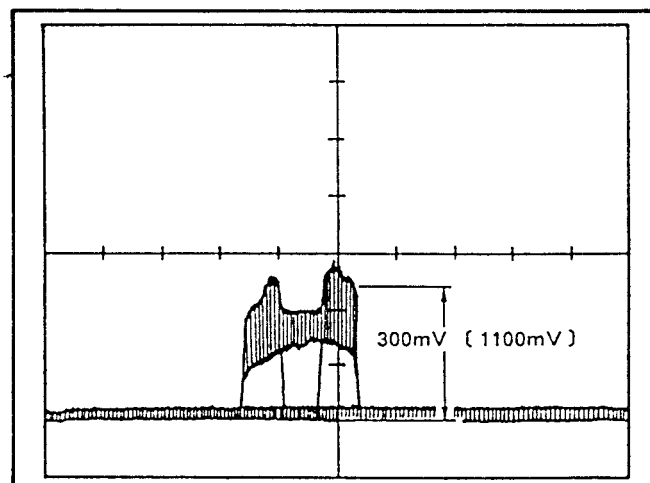

Fig. II-54
- (1) Open the iris. (TP2201 ↔ TP2207)
- (2) Attach the ND-2.0 filter on the front face of lens with the fixture.
- (3) Prepare a U-pattern chart with a white paper attached on its rear side.
- (4) Make setting as shown in the Fig. II-54.
- (5) Shoot the U-pattern chart with the standard angle of view.
- (6) Locate the halogen lamp so that the signal level at TP2202 becomes 300 mV ("A" in the figure). Also, adjust the angle of halogen light so that the waveform in the Fig. II-54 is obtained.